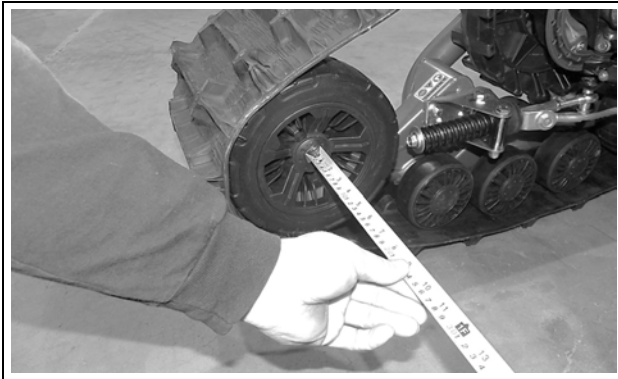

Figure 23
**Measure A:** Measure the distance between the front inside  $\text{\O}241$  mm tires of the front Track Systems. See Figures 23, 24 and 25.